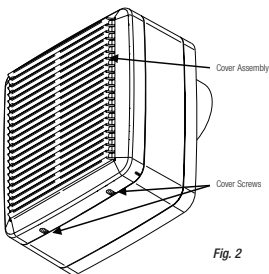

Fig. 2
1. Remove the front cover assembly by slackening the two screws by two turns (Fig. 2 & 3). Lift the front cover assembly away from the bottom edge first, then the top edge.
13. Replace the front cover assembly and tighten the two screws (Fig. 2 & 3).
10. Replace the front cover assembly and tighten the two screws (Fig. 2 & 3).
- If fitted with the metal grease filter, remove the metal grease filter (Fig. 2) from the front cover assembly by gently popping it out from its holding clips on one side of the front cover assembly.